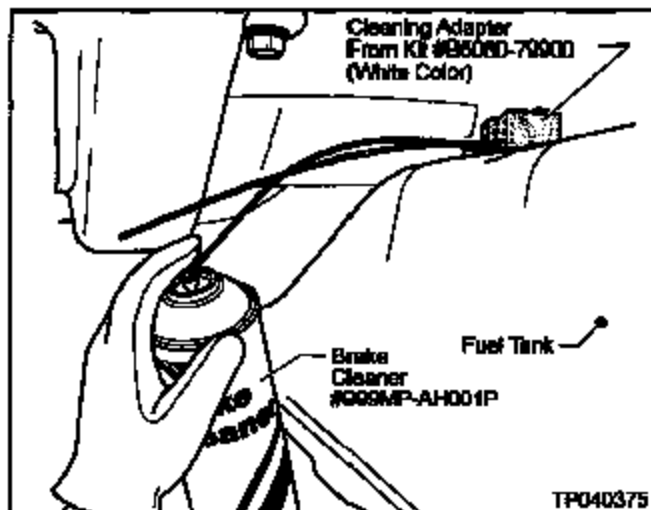

Figure 7
7. Spray Brake Cleaner #999MP-AHD01P through each Adapter Tube for about two seconds (see Figure 7).